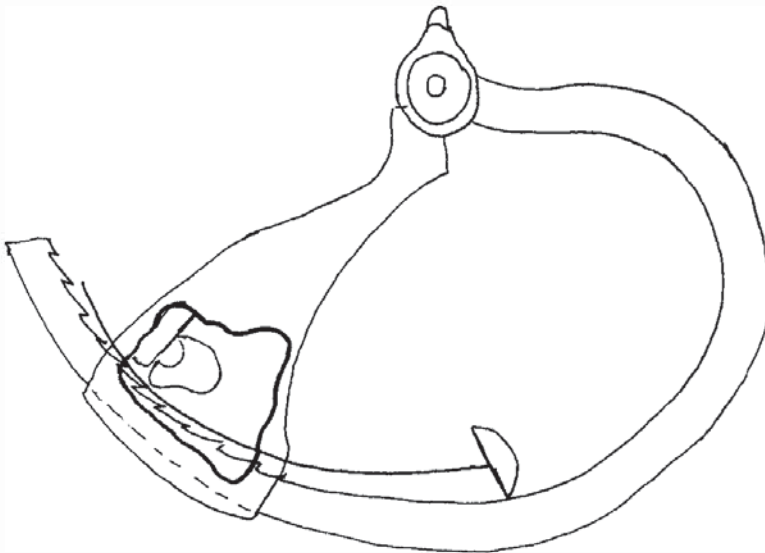

FIG 6
In essence, the shim is used at only one point on a handcuff. FIG 6 illustrates how a shim would be used and at a particular point. The purpose of the shim is to create a smooth surface between the teeth and locking dog so that there is no point for the locking dog to catch and hold the teeth, thus keeping the handcuff in a locked position. By using the shim properly, you create a smooth surface and, at the same time, create a “buffer zone” between the teeth and the locking dog. This buffer zone means that nothing is holding the teeth and it allows the shackle arm to be removed, thus unlocking the shackle from the rest of the handcuff.
**SHIMMING.** Shimming is the time-honored technique whereby you would use a thin piece of wire, piano, thin steel, etc, and insert it along the end edge of the swinging shackle, and force back the catch mechanism of the locking dog (FIG 6). In doing this, you create the smooth surface which is necessary so the locking dog cannot catch and hold (any more) the teeth of the shackle on the handcuffs. This smoothness allows you to pull the shackle free from the locking mechanism.